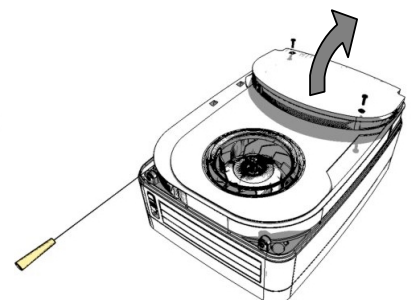

Figure 4.
4. Remove 2 screws and detach Electrical Cover - Figure 4.